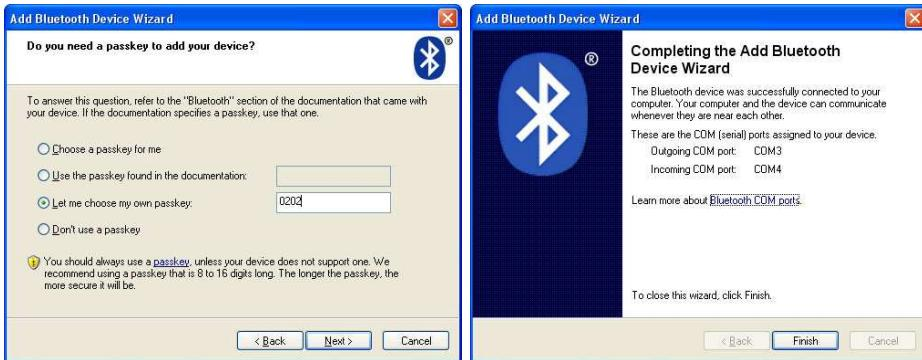

Figure 14: Enter the pin code corresponding to the number of your e-puck robot. The wizard will set a COM port corresponding to your robot.
4. As illustrated in figure 14 left, please enter the pin code to access to your e-puck. The default pin code is the same number as the number you have in the e-puck identificator. In the example given here, for the e-puck number *0202* the pin code is *0202*.
5. As illustrated in figure 14 right, the wizard will choose the COM service of the e-puck robot. The COM service to use is the **Outgoing** one, in figure 14 right it is COM3.